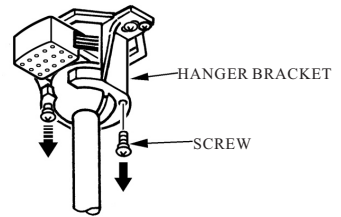

FIG.9
3. Remove one of screws and loosen the other screw from the hanger bracket. (see Fig.9)